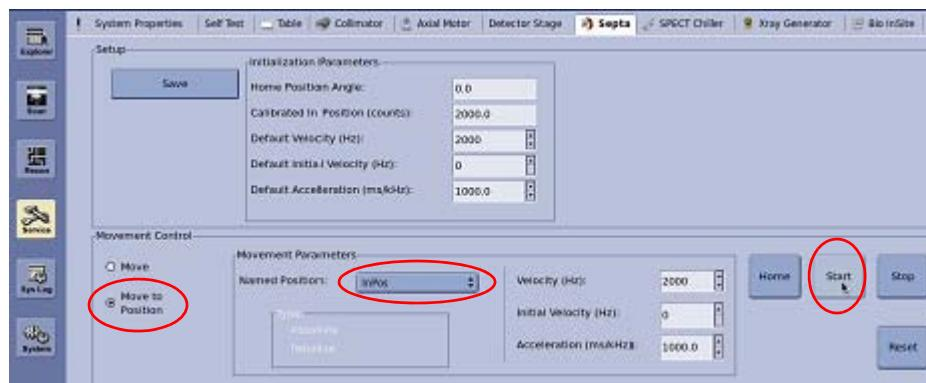

Figure 7-15
- The septa must be moved to its nominal aligned position. From the septa service page, click on the "Move to Position" radio button and select "InPos" from the named position drop-down list. Click the "Start" button and wait for the septa to stop moving. (Figure 7-15). I.
- 3.) Ensure the septa is in its calibrated position. From the septa service page, click on the "Move to Position" radio button and select "InPos" from the named position drop-down list. Click the "Start" button and wait for the septa to stop moving. (Figure 7-15).